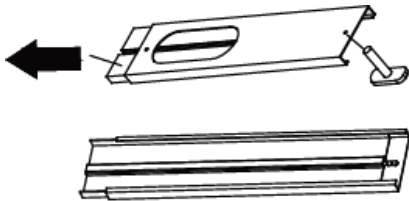

Fig. 2
- Separate the wing screw set (27) in its component parts.
- Pull the inner part of the window channel (25) out until the drill hole in the outer part is exposed. Run the screw through the drill hole (Fig. 2) paying attention to the direction.